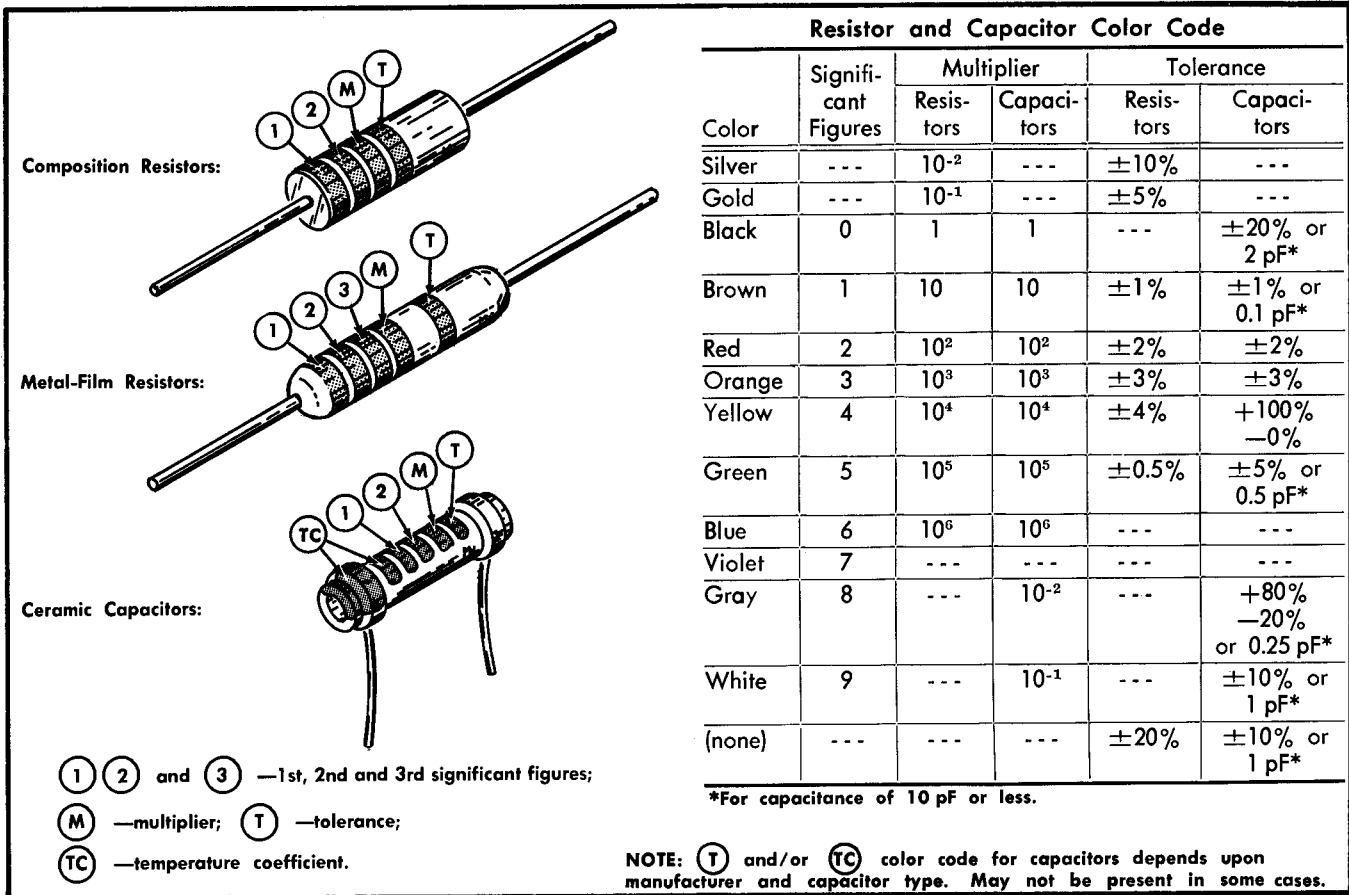

Fig. 5-7. Standard EIA color coding for resistors and capacitors.
**Resistor Color-Code.** In addition to the brown composition resistors, metal film resistors (identifiable by their grey or light blue color) are used in the Type 230. The resistance value of composition and metal film resistors is color-coded on the components with the standard EIA color-code. The color-code is read starting with the stripe nearest the end of the resistor. Composition resistors have four stripes consisting of two significant figures, a multiplier and a tolerance value. Metal-film resistors have five stripes which consist of three significant figures, a multiplier and a tolerance value. (See Fig. 5-7).
**Capacitor Markings.** The capacitance value of common disc capacitors and small electrolytics are marked in microfarads on the side of the component body. The white ceramic capacitors used in the Type 230 are color-coded in picofarads using a modified EIA code (see Fig. 5-7).